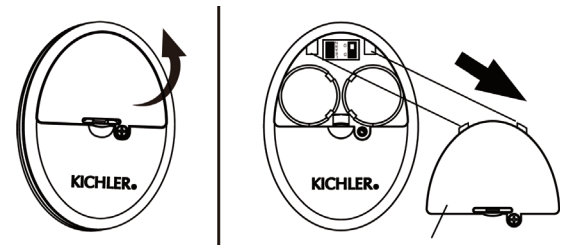

Fig. 28
**Step 1.** Using a screwdriver, remove the battery cover from the handset and save the screw for later use. (Fig. 28)